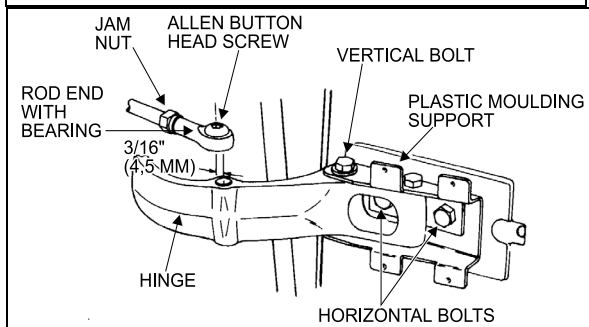

FIGURE 18: UPPER DOOR HINGE (COACH) 18058
2. Remove the Allen button head screw and the washer retaining the rod end with bearing to the upper hinge. See Figure 18.